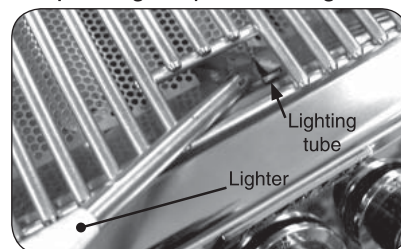

Fig. 17-2 - Manual lighting
2. Insert either a burning long-barrel butane lighter or a burning long-stem match through the cooking grids to the top of the lighting tube. (Fig. 17-2). For backburners, hold the flame against the perforated material of the backburner. For sideburners, hold the flame against the burner.
**REMEMBER:** FOR SAFE MANUAL LIGHTING, PLACE A BURNING MATCH OR BUTANE LIGHTER BESIDE THE BURNER OR TOP OF LIGHTING TUBE - **THEN TURN ON THE GAS** (see Fig. 17-2).